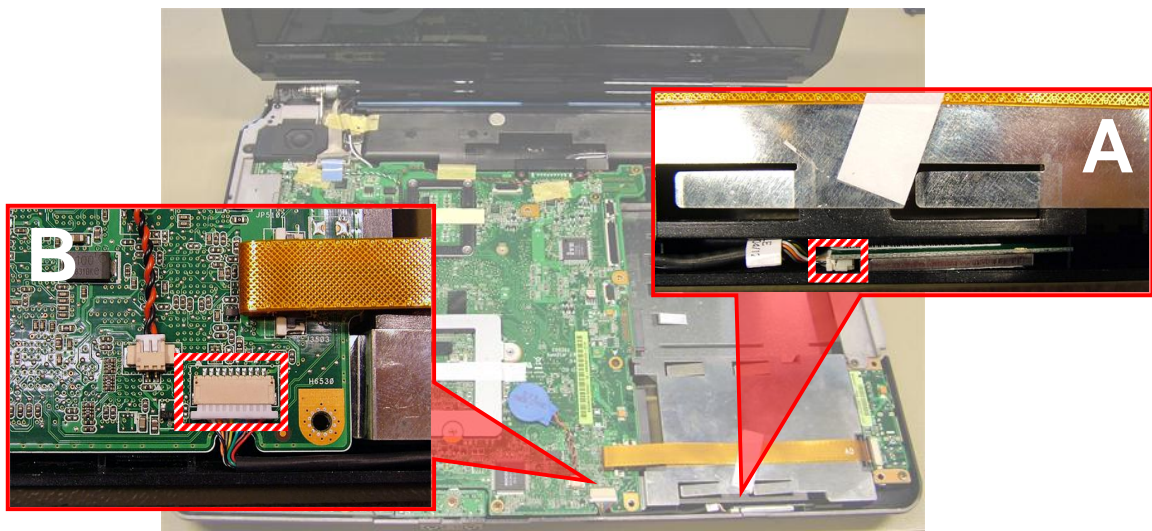

Fig. 22 Location of Bluetooth module.
3. Disconnect the cable (B) from the header on the main board (see Fig. 22).